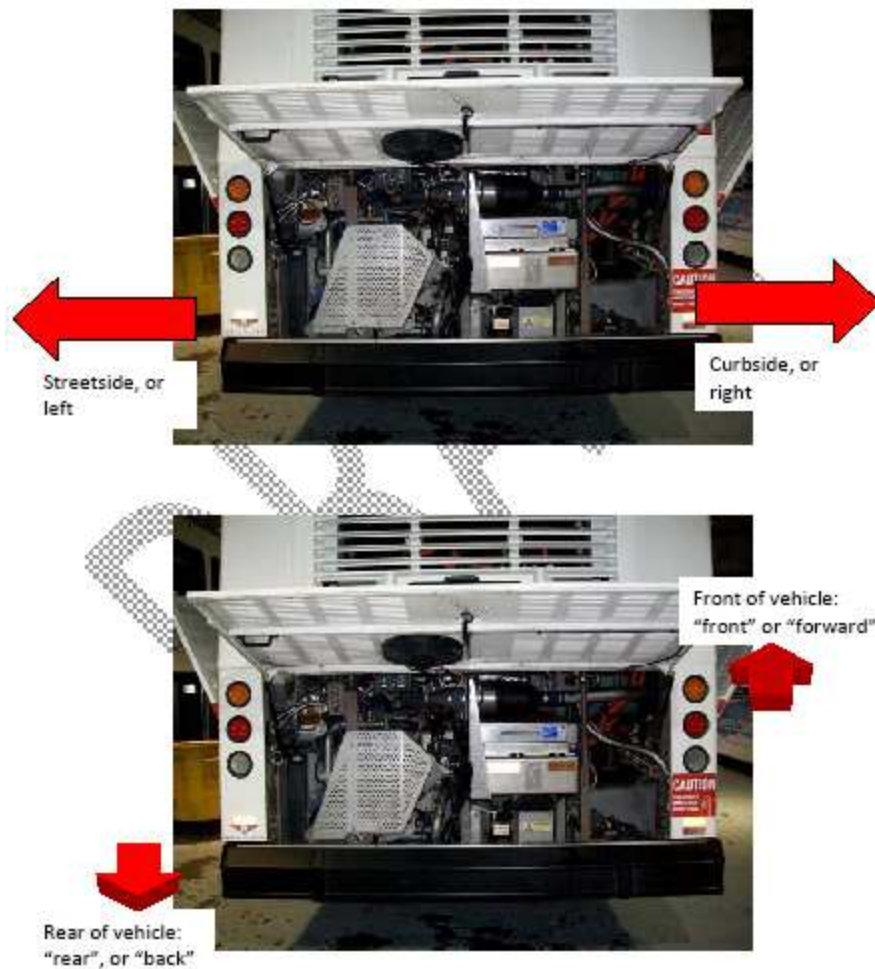

Figure 1: Orientation
- b. Refer to Fig 1 for bus orientation.